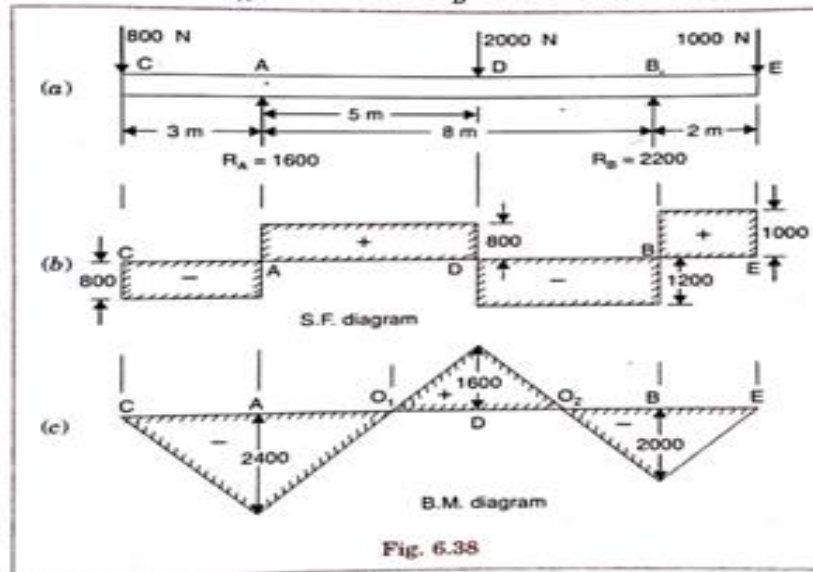

Fig. 6.38
S.F. diagram is shown in Fig. 6.38.
The B.M. diagram is drawn as shown in Fig. 6.38 (c).